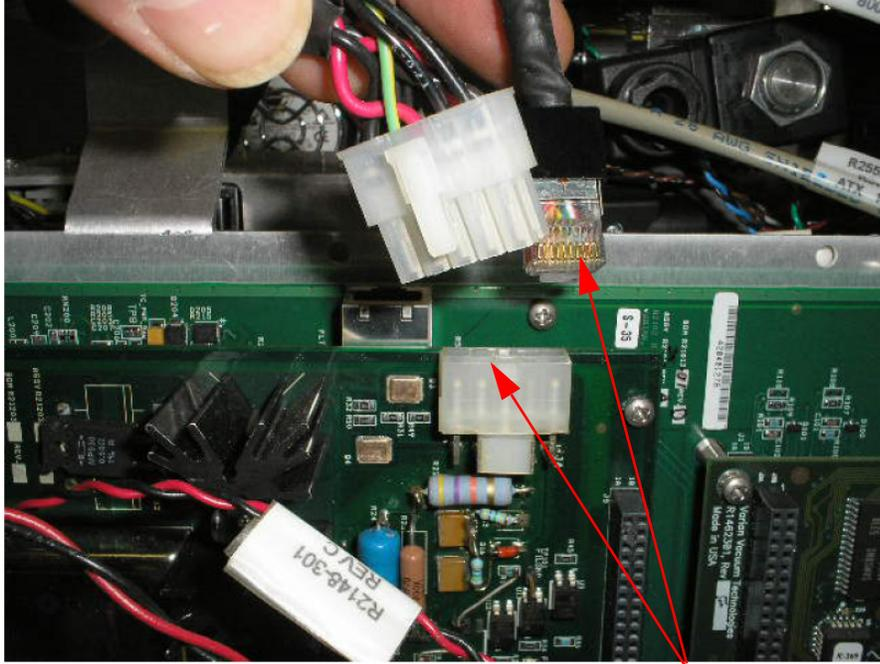

Figure 1-8 Ion Source Board Connections - Top
10. Disconnect the white 10 position connector and the RJ45 connector (black cover) on top of the Ion Source board. Both connectors have a clip in the center that needs to be squeezed towards the connector to release (Figure 1-8).